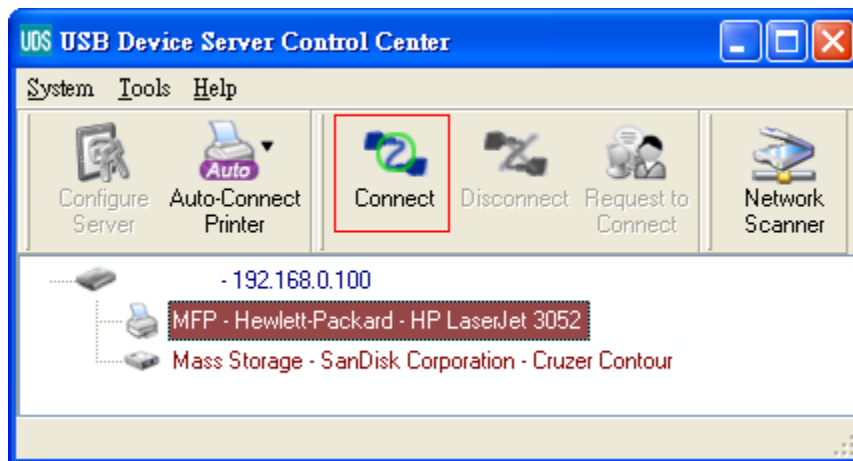

Figure 4 Click the Desired USB Device
- Click the desired USB device as Fig 4.
- B. Click the desired USB device as Fig 4.